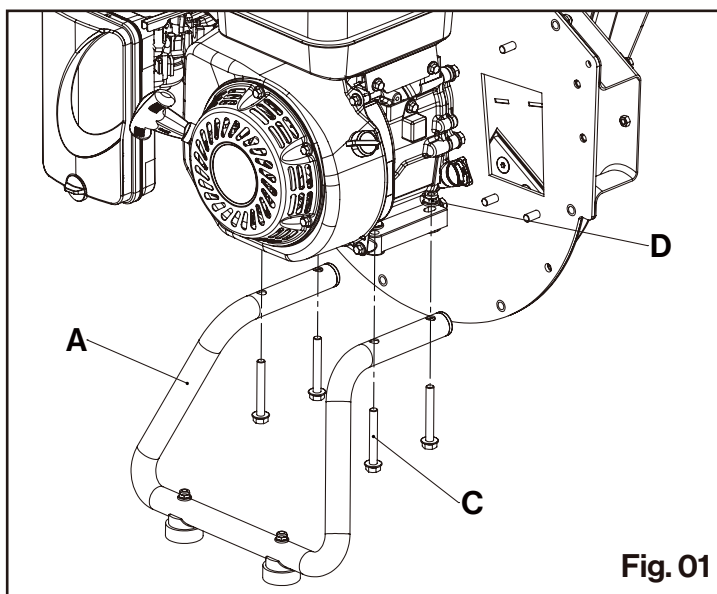

Fig. 01
1. Position the stand (A) underneath the engine base.
2. Using the four M8x60 flange bolts (C), and four flange nuts (D) to tight the stand with the engine base plate. **(Fig.01)**